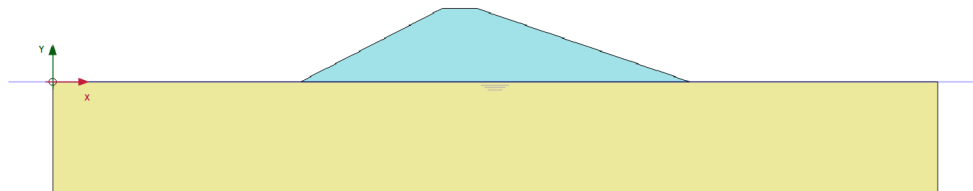

Figure 33: Configuration of phase 2
3. Finally, activate the embankment, and the resulting model is shown in Figure 33 (on page 44).